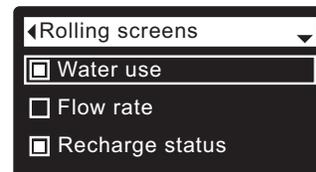

FIG. 56
5. Press the **SELECT** (O) button to display the Rolling screens menu (See Figure 56).